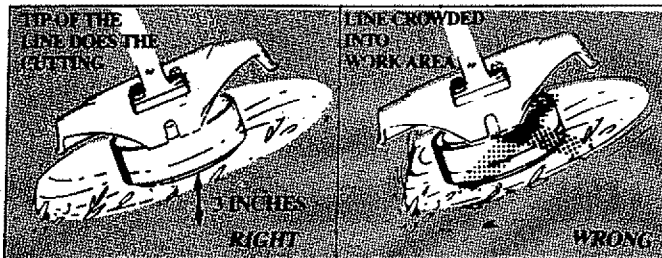

Figure 13
- The tip of the line does the cutting. Allow the line to trim at its own pace. You will achieve better results by not crowding the line into the cutting area. The right and wrong way are shown in Figure 13.